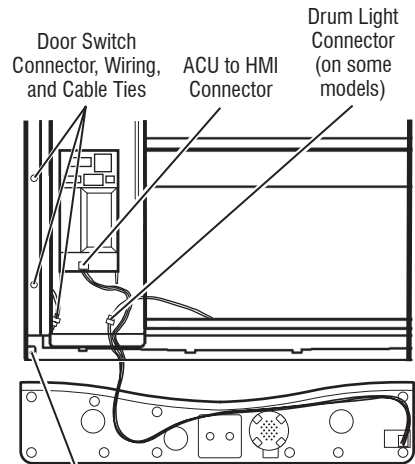

Figure 10 - Remove console
#### A: Remove Console (Figure 10)
2. Disconnect the drum light harness (on some models) at the inline connector as shown in figure 10.
3. Disconnect the ACU to HMI harness directly from the ACU, as shown in figure 10.
6. Disconnect door switch connector (See Figure 10, page 23).